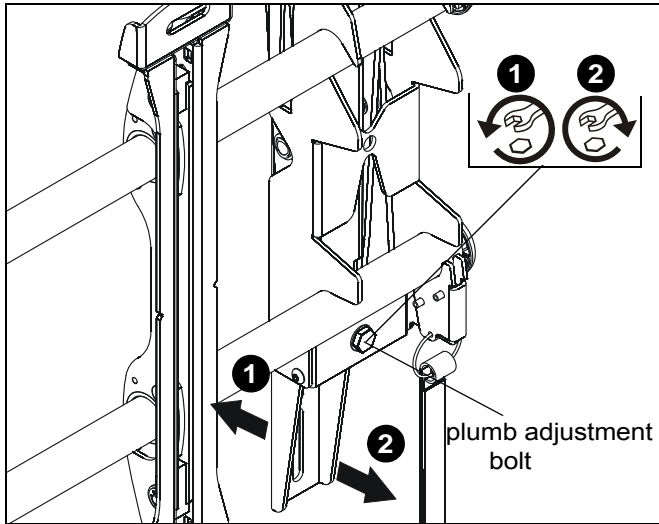

Figure 12
1. Using the provided 1/2" wrench (X), turn plumb adjustment bolt to the left to adjust screen away from the wall. (See Figure 12)
2. Using the provided 1/2" wrench (X), turn plumb adjustment bolt to the right to adjust screen toward the wall. (See Figure 12)